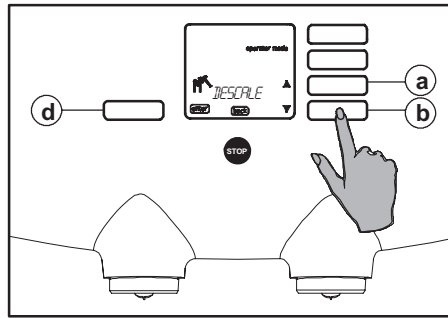

Fig. 77 Scrolling in the selection menu
4. Use the scroll buttons \updownarrow until the option "DESCALE" appears in the display (fig. 77 a or b).